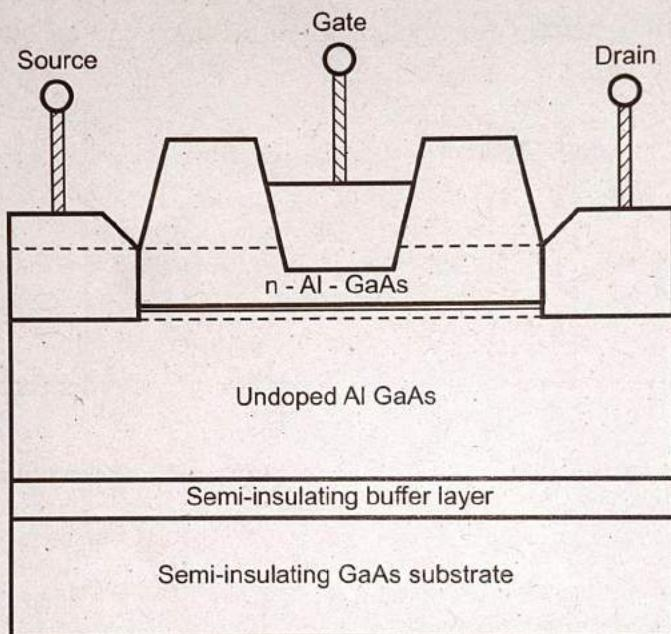

Fig. 5.2.1 Structure of HEMT
- Fig. 5.2.1 shows structure of HEMT.